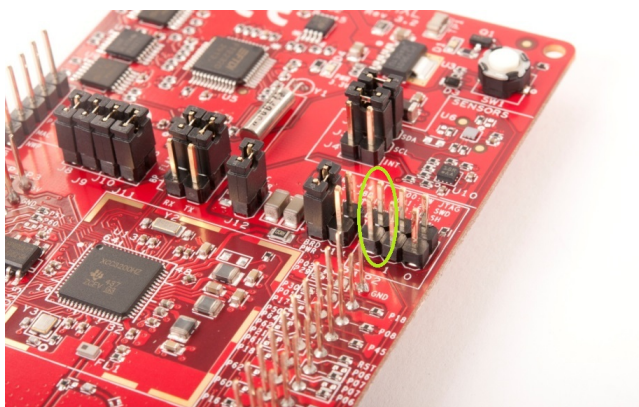

Figure 3-1. Jumper J15
1. Once the binaries are flashed, remove jumper J15 on SOP2 of CC3200-LAUNCHXL and reset the board (refer to the green circle in Figure 3-1).